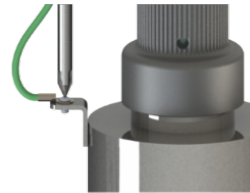

Figure 7. Ground Screw
Step 8: Tighten the captive ground screw to the ground lug on the UV chamber to ensure proper grounding (Figure 7).